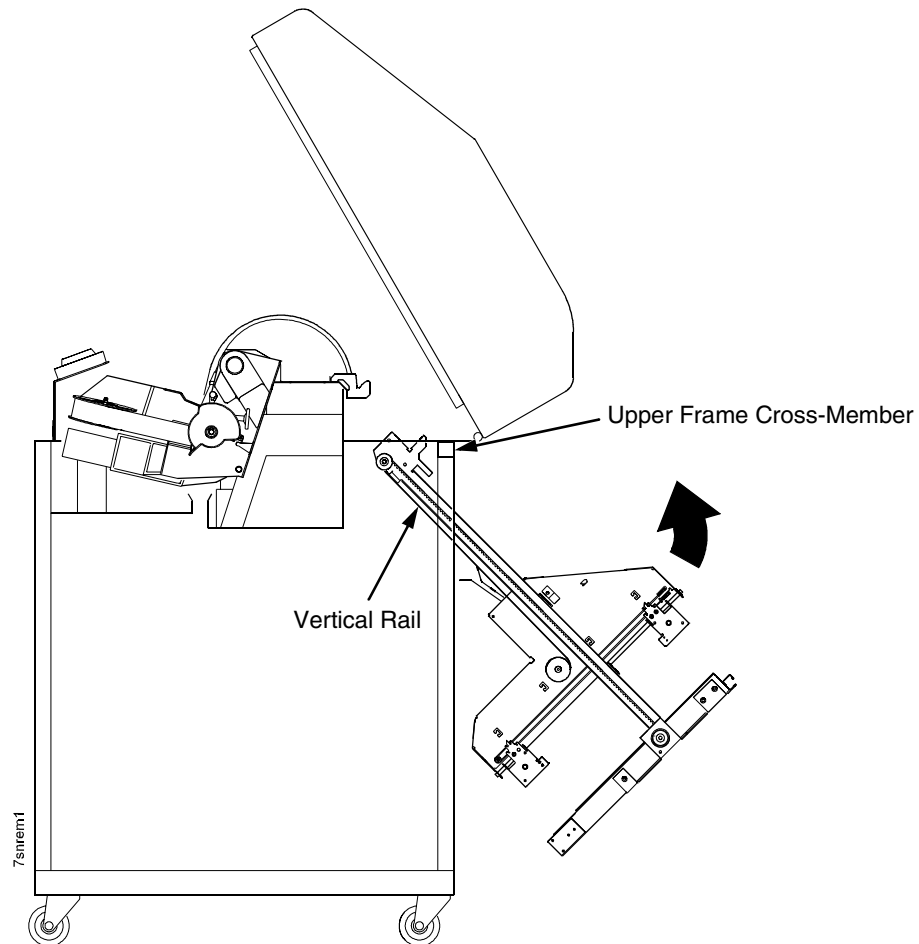

Figure 69. This figure shows how to remove the stacker assembly from the rear of the printer cabinet.
15. Slide the entire stacker assembly slightly to the right to clear the air exhaust duct. Tilt the vertical rails toward the front of the printer until they clear the upper frame cross-member. Slide the stacker assembly to the rear and angle it out of the cabinet, as shown in Figure 69.